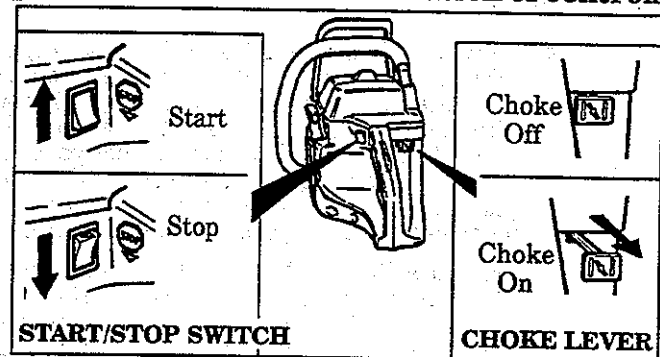

Figure 13
- b. Move Start/Stop switch to the "Start" position. Figure 13.
- c. Move choke lever to "ON" position. Figure 13.
- e. Move choke lever to "OFF" position. Figure 13.
- h. Stop the engine by moving the Start/Stop Switch to the "Stop" position. Figure 13.
- 2.) Move the choke lever to the "On" position. Figure 13.
- 6.) Allow the engine to run for about 5 seconds. Then, move the choke lever to the "Off" position. Figure 13.
- 2.) Move the choke lever to the "On" position to set the throttle. Then, move the choke lever to the "Off" position. Figure 13.